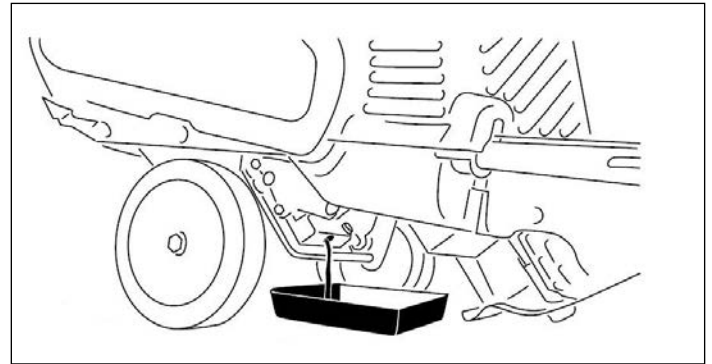

Fig. 013
3. Place an oil drain pan under the oil drain plug, remove the oil drain plug, and tip the machine backward and drain the used oil in the oil drain pan (Fig. 013).